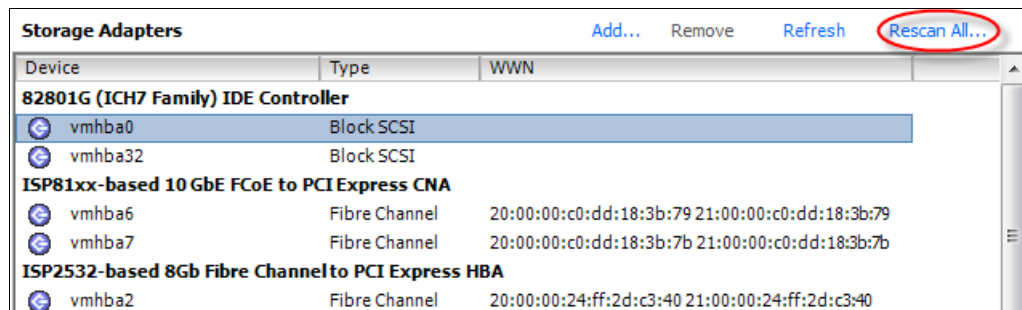

Figure 7-6 Rescan devices
6. In the vSphere client, go to **Configuration** → **Storage adapters** and click **Rescan All** in the top right corner (see Figure 7-6).